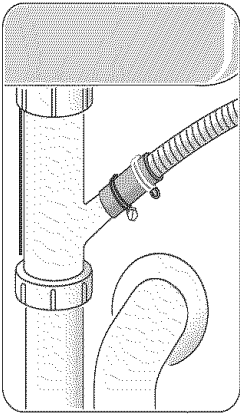
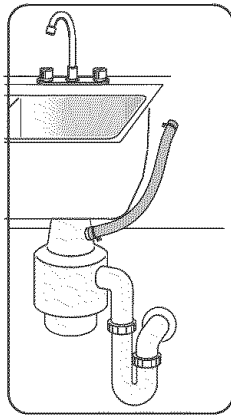

Figure 22
Figure 23
- 1) Directly to the undersink dishwasher drain connection, as shown in Figure 22.
- 2) Directly to a disposer dishwasher drain connection, as shown in Figure 23.
If the dishwasher drain hose is connected directly to either an undersink dishwasher drain connection, as shown in Figure 22, or to a disposer dishwasher drain connection, as shown in Figure 23, form a curve in the dishwasher drain hose and secure a portion of the curve at least 20" (508mm) above the cabinet floor.